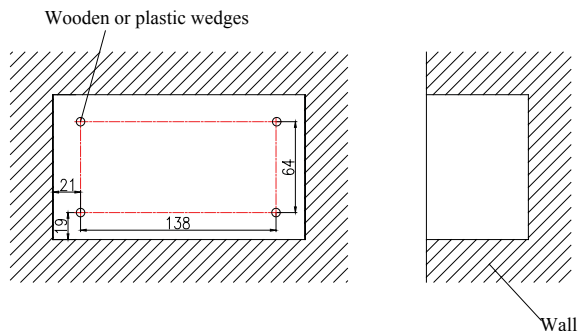

Fig. 18
2) Make 4 pieces of wooden or plastic wedges and then secure them, as shown in Figure 18.